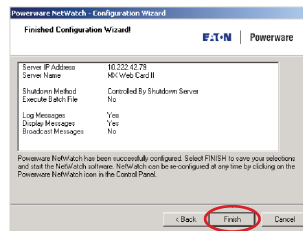

Figure 22. Verify Configuration Settings
12. Verify the configuration settings are correct and select **Finish** (see Figure 22).